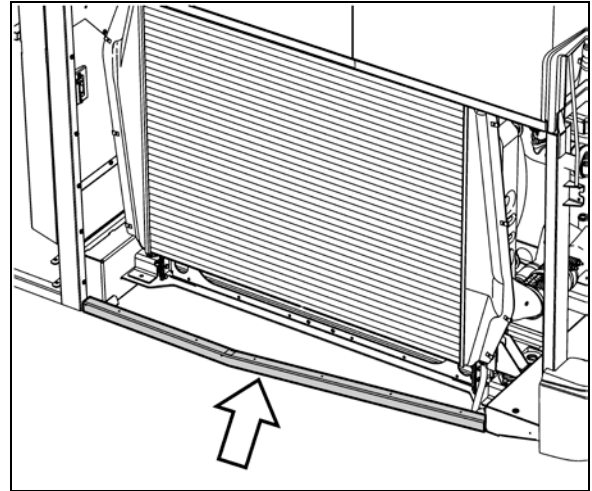

FIGURE 28: LOWER RADIATOR ASSY TUBE PROTECTOR
13. Remove the lower radiator assembly tube protector from the lower section (Figure 28).